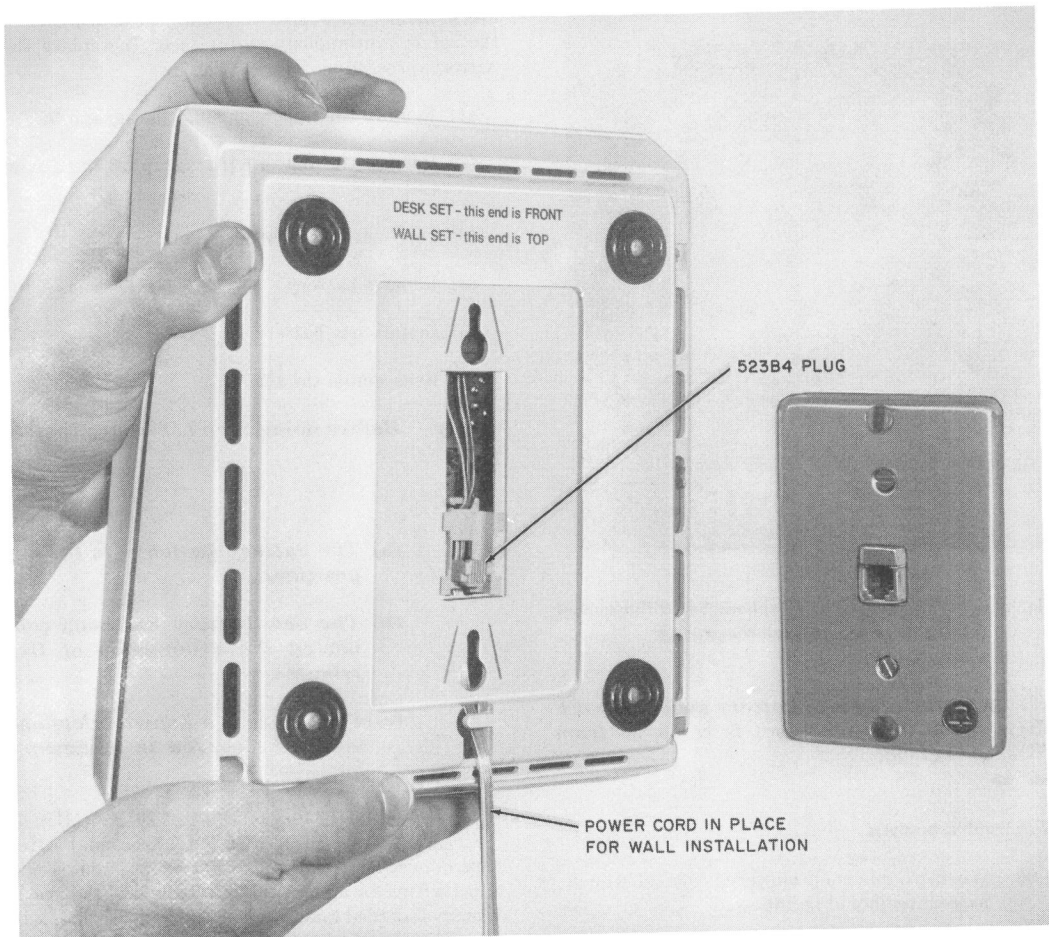

Fig. 12—▶2960A01M (MD) Wall Set and 630A4 Connecting Block◀
- (1) Remove the lower housing (paragraph 3.17).
- (2) Remove the 523B4 plug from its stored position and snap both sides of the plug into rectangular slot in the bottom of the lower housing. Snap plug in from the outside so that the word **TOP** is properly oriented in the housing (Fig. 12). The plug should slide freely in the slot.
- (3) Insert the other end of the 523B4 plug into the jack position designated **PHONE** on the power supply board.
- (4) Insert the power cord up through the cord opening below the plastic retainer tab in the bottom of the lower housing (Fig. 12).
- (6) Place the lower housing on the chassis according to the instructions on the bottom (Fig. 12).
- (7) Engage the four captive screws to fasten the lower housing to the bottom of the chassis.
- (8) Remove the station number card retainer and station number card from the upper housing.
- (9) Disengage the captive screw from the chassis and lift out the concealed handset hook and screw from the cavity in the upper housing.
- (10) Completely remove the captive screw from one side of the handset hook and insert it into the other side.
- (12) Replace the station number card and card retainer.
- (13) The converted wall set is intended to plug into and secure to a 630A4 connecting block (Fig. 12 and 16B).